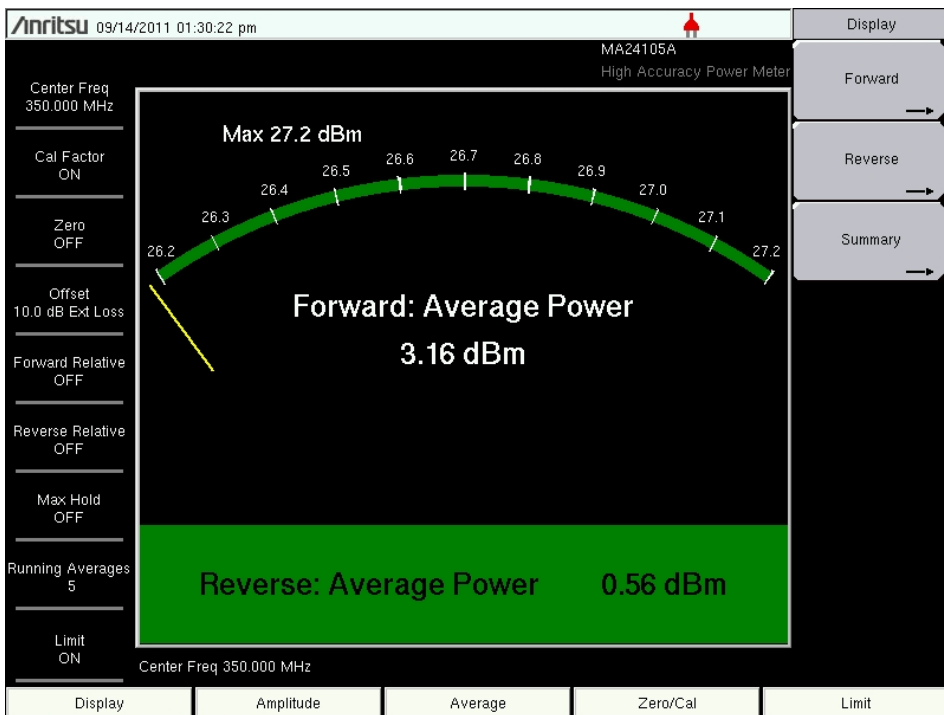
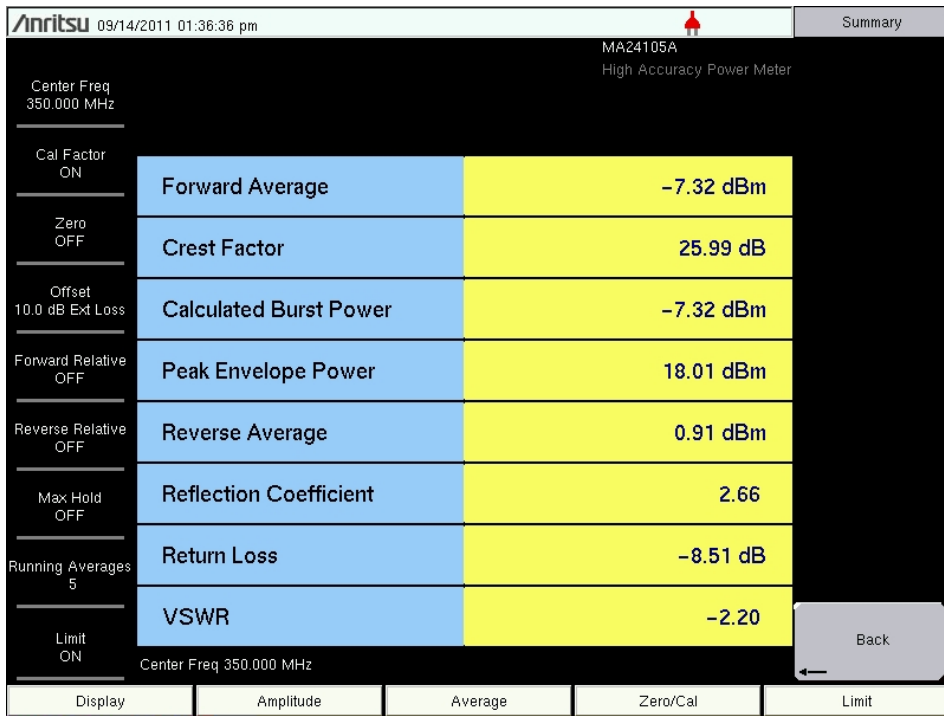

Figure 4-2. Forward and Reverse Average Power
Figure 4-3. Power Meter Summary Display
In the analog meter view, as shown in Figure 4-2, forward measurements are displayed in the dial portion of the meter. The reverse measurement is displayed below the dial in a rectangular box. To view all of the forward and reverse measurements in table format, use the Summary display (as shown in Figure 4-3). Figures showing measurement screens may differ from any actual screen on your instrument.
These main menu keys and the Display menu with its submenu keys are shown in Figure 4-2. The screen that is displayed in Figure 4-2 is an example and may not match any actual screen on your instrument.
1. Press the **Display** main menu key, and then press Forward, Reverse, or Summary. Refer to Figure 4-2 on page 4-3. Summary displays both forward and reverse measurements in table format, as shown in Figure 4-3 on page 4-4.